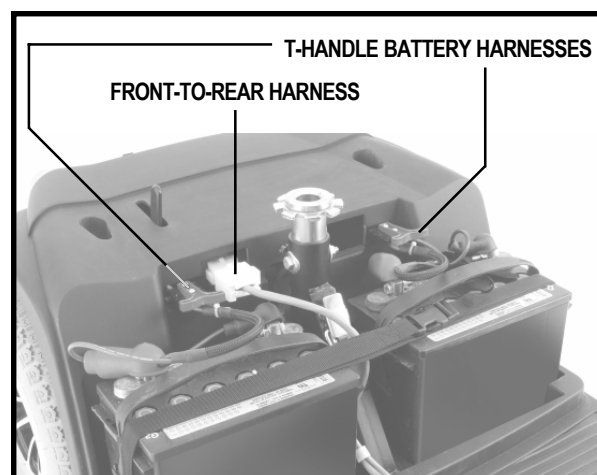

Figure 16. Harness Connections
5. Unplug both T-handle battery harnesses. See figure 16.
6. Unplug the front-to-rear harness. See figure 16.